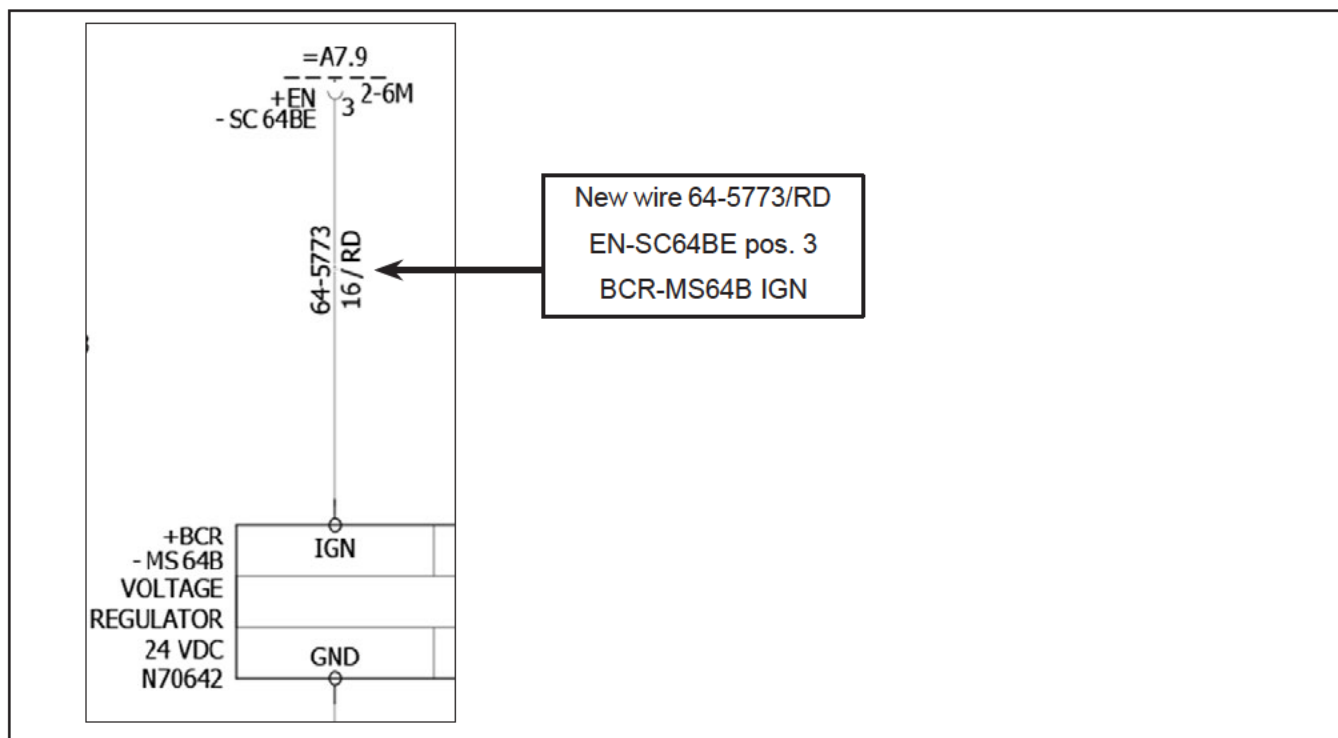

Figure 17 - New Wire 64-5773 Installation
1.50. Connect connector IB- X6499A. See Figure 17 for torque value.